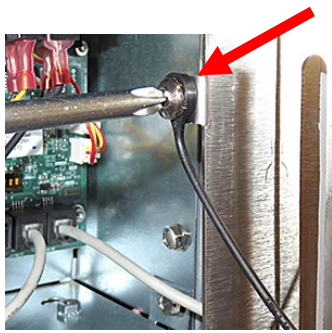

Figure 9
10. Disconnect the lanyard tether (see Figure 9).